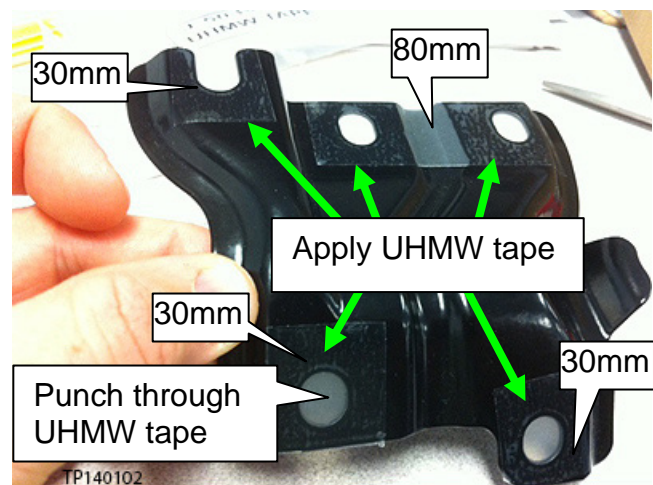

Figure 11
14. Apply UHMW tape cut in step 13 to both brackets as shown in Figure 11.